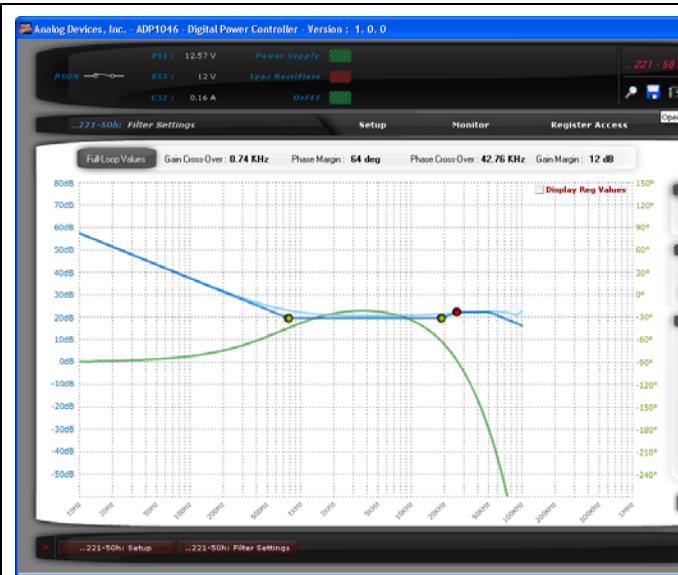
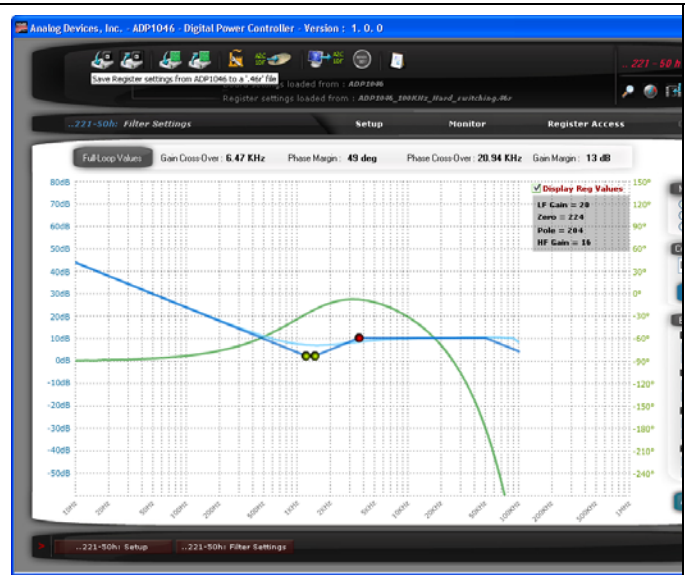

Figure 41 – Digital compensation for Light Load mode (DCM)
Figure 42 - Digital compensation for normal or heavy load (CCM)
- A. **Closed Loop System:** Figure 41 and Figure 42 show the bode plot of the system. The validity of this plot depends highly on the proper characterization of the output inductor and capacitor and their respective parasitic components namely the DC resistance and ESR. The GUI displays the closed loop crossover frequency, phase margin as well as individual gain and phase plots for the LC filter, digital filter and the closed loop scenarios.